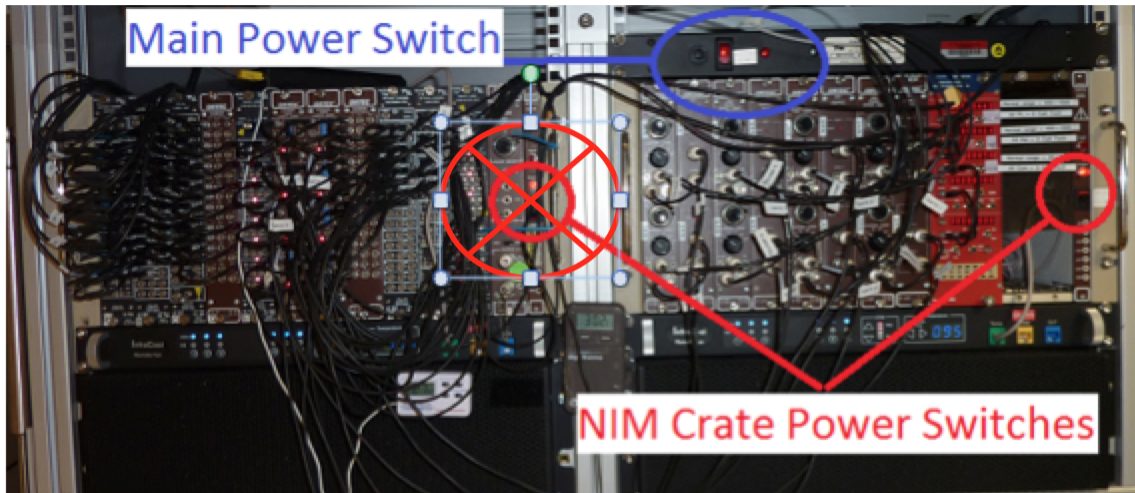

Figure 16. Electronics Crate shutdown switches.
7. Turn off the NaI detector electronics (right-hand NIM rack next to iSEG crate; Figure 16). This will turn off the high-voltage supply to all 8 NaI detectors. **Do not turn off the left-hand NIM rack (marked with a circled X in Figure 12 below) or the main power (blue circle) at this time.** Leave all other electronics and fans running to prevent additional condensation from forming.
Take your time. Let the electronics settle. This is not a race. Voltages across any given NaI detector may be monitored with a volt-meter at the bias box with 8 red touch points and a white single ground point. Do **not change the voltage** at any NaI detector at the junction box!!! Remember if you need to switch off the High Voltage you must switch off the whole right-hand NIM crate (right-hand NIM crate button in Fig. 16) as outlined in the partial shutdown procedure, which will turn the high voltage off from all NaI detectors simultaneously.
4. Turn on the NaI detector electronics (right-hand NIM rack next to iSEG crate, the right red circle in *Figure 16*), only after ensuring that the fan under it is working.
5. Turn on the fast signal processing electronics (left-hand NIM rack, the left red circle in *Figure 16*).